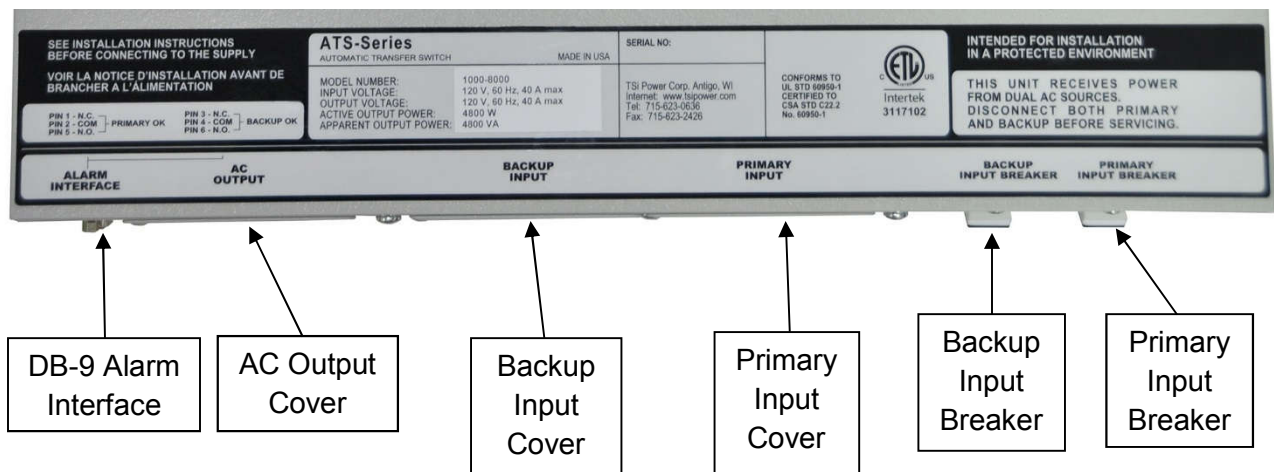

Figure 4: ATS-1000-8000 top-cover label showing rear compartments/components
The ATS Series receives power from two AC sources. To prevent any hazardous situations from occurring, always turn off both circuit breakers in the rear of the ATS unit (see Fig. 4), as well as the upstream circuit breakers protecting both AC input sources to the ATS unit before connecting or disconnecting the AC input and output wires to the input & output terminal blocks or connecting the plug cables from the rear of the ATS unit.
1.6.1 TOP-DOWN VIEW OF COVER SHOWING MAIN IDENTIFICATION LABEL AND REAR COMPONENT LOCATIONS (for hardwire unit) – See Figure 4.
Important Note: Make sure that both Primary and Backup AC input voltages and frequencies match those specified on the product label affixed to the ATS unit (see Figure 4). The ATS will only operate when the input voltage is within specified voltage and when the frequency is within $\pm 5\%$ of that specified. Both primary and backup must be the same nominal frequency.